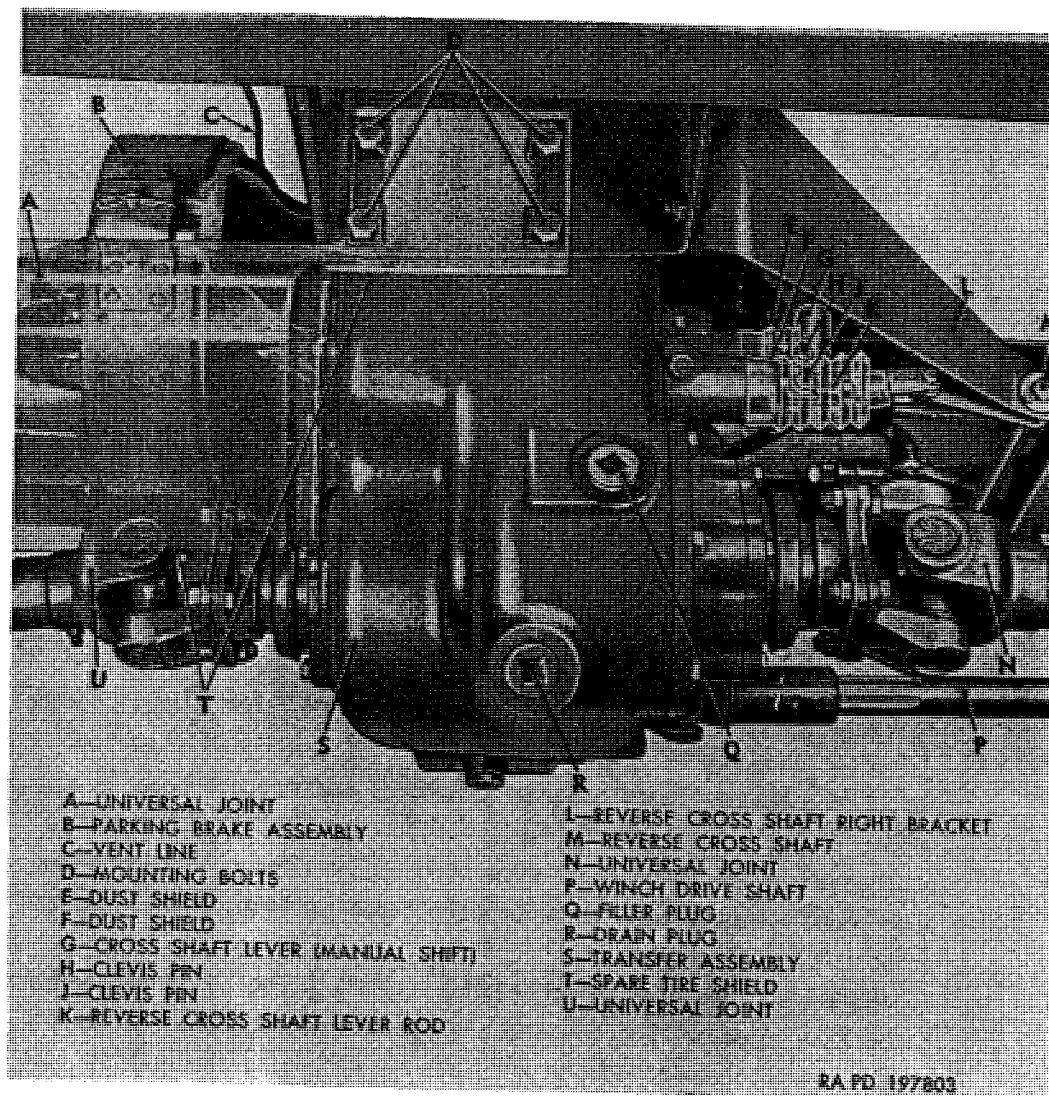

Figure 217. Transfer installed.
(1) Removal.
- (a) Remove clevis pins (BB and JJ) at each end of transfer reverse rod (M); then remove rod.
- (b) Remove front and rear dust shield clamps (U and X) on reverse shifter shaft dust shield (Z). Slide dust shield toward front.
- (c) Remove cotter pin from clevis pin (W), then remove clevis pin.
- (d) Remove cotter pin and plain washer from right end of reverse cross shaft (M, fig. 217).
- (e) Remove two bolts (P) attaching reverse cross shaft left bracket to transmission rear support. Remove reverse cross shaft and bracket assembly.
(2) Installation.
- (b) Slide right end of reverse cross shaft into right support bracket (L, fig. 217). Install two $\frac{5}{16}$ -24 x $\frac{7}{8}$ bolts (P) and $\frac{5}{16}$ -24 locknuts which attach reverse cross shaft left support bracket to transmission rear support. Tighten locknuts to $9\frac{1}{2}$ to 13 pound-feet torque.
- (c) Place $1\frac{7}{32}$ -inch plain washer on right end of reverse cross shaft; then install $\frac{1}{8}$ x $\frac{7}{8}$ cotter pin through end of reverse cross shaft (M, fig. 217).
- (d) Connect transfer reverse rod (M) to transmission shift lever (K) with $\frac{3}{8}$ -inch clevis pin (JJ). Install $\frac{3}{32}$ x $\frac{5}{8}$ cotter pin through end of clevis pin. Do not connect adjustable end of rod at this time.
- (e) Adjust forward and reverse shift linkage (par. 202*c*); then install $\frac{3}{8}$ -inch clevis pin (BB). Secure clevis pin with $\frac{3}{32}$ x $\frac{5}{8}$ cotter pin.
- (f) Position reverse shifter shaft dust shield (Z) over clevis yoke and shifter shaft; then install and tighten front and rear dust shield clamps (U and X).
(fig. 217)